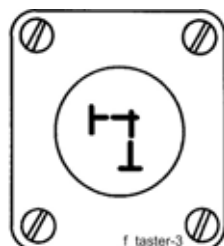
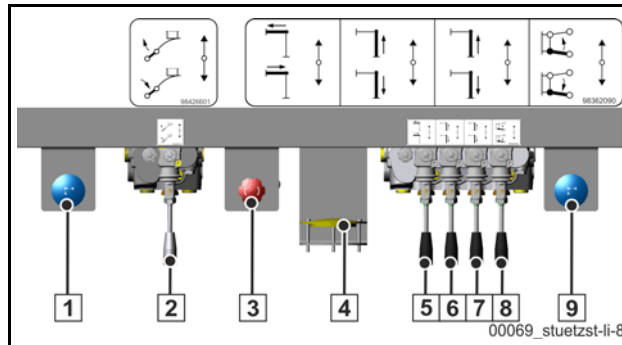

Fig. 278 Release button
Fig. 280 Example illustration: Outrigger control block for model S65SXF, on the left in the direction of travel
In order to move the outrigger cylinders, the release button (Fig. 278); (6) (Fig. 280) next to the outrigger control block must be held down while the control lever is actuated.
Caption (Fig. 280)